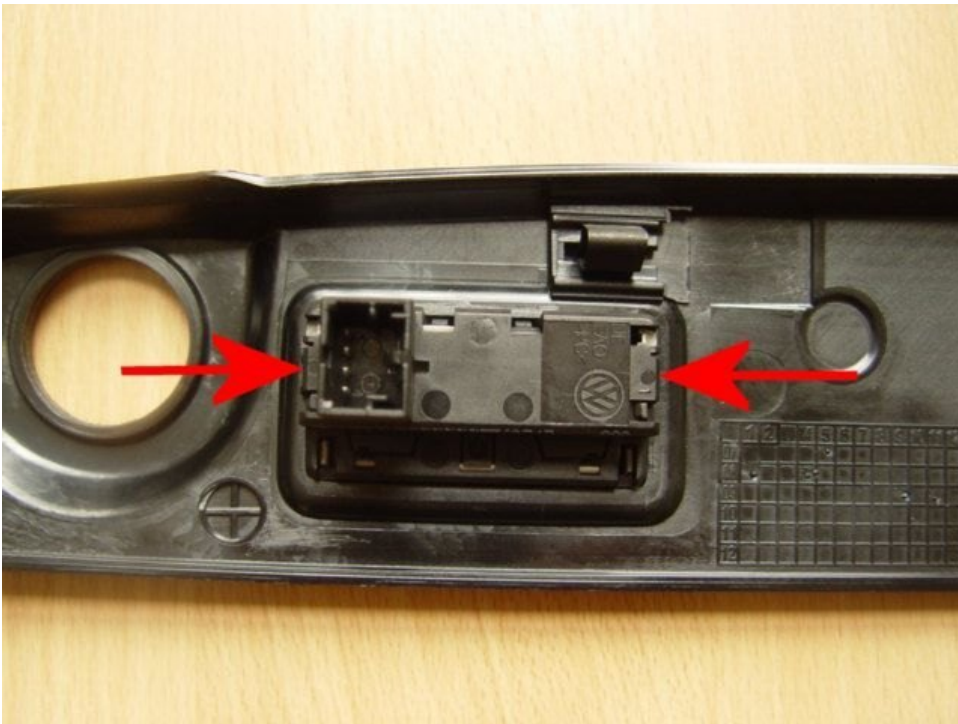

Figure 1
- 3.Remove the switch from the cover panel by pressing the two retaining clips inboard and remove the switch from the cover panel (Figure 1)